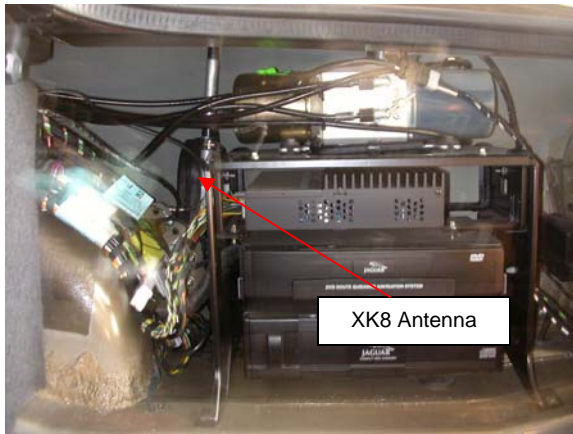
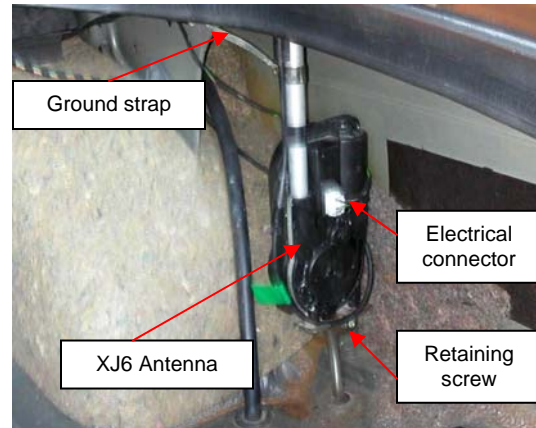

Fig. 3a XK8
Fig. 3b XJ6
3. Both: locate the antenna. In my case, the XK8 antenna is positioned behind the CD changer, navigation-system DVD, audio amplifier, and convertible-top hydraulic lines (Fig. 3a). It is far easier to access the antenna in the XJ6 and removal is self evident (Fig. 3b)